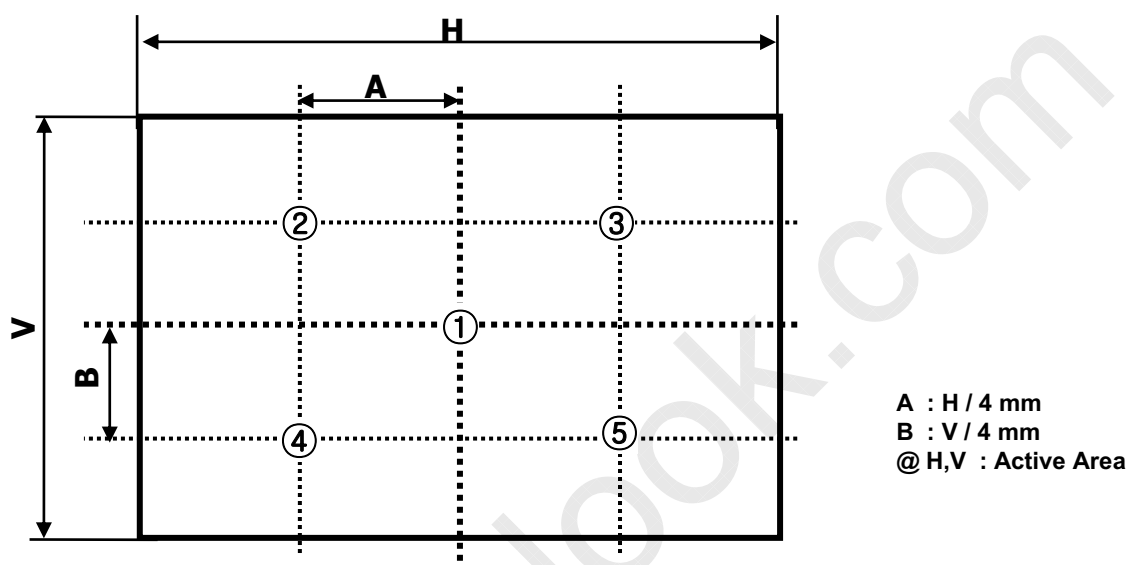

FIG. 9 5 Points for Luminance Measure
2. Surface luminance is determined after the unit has been 'ON' and 1Hour after lighting the backlight in a dark environment at $25 \pm 2^\circ\text{C}$. Surface luminance is the luminance value at center 1-point across the LCD surface 50cm from the surface with all pixels displaying white. For more information see the FIG. 9.
For more information, see the FIG. 9.